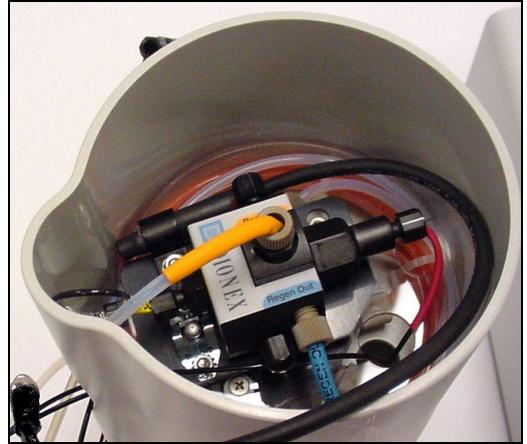

Figure 5-41. CR-TC Installed in Holder
10. Check that none of the lines are caught under the CR-TC and then push the CR-TC onto the metal stud inside the EGC holder. Push down until the CR-TC snaps into place (see Figure 5-41).